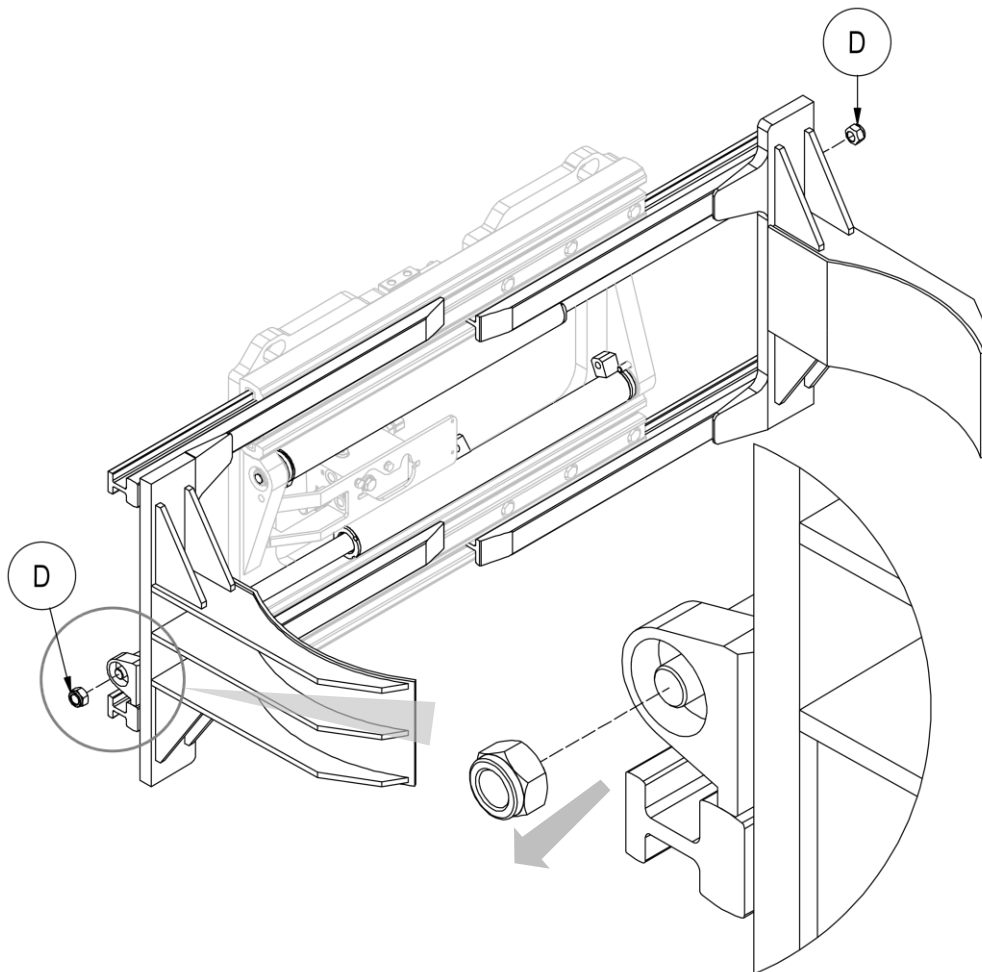

Figure 47
3. Remove the nuts **D** that secure the cylinders to the forks (see *Figure 47*).